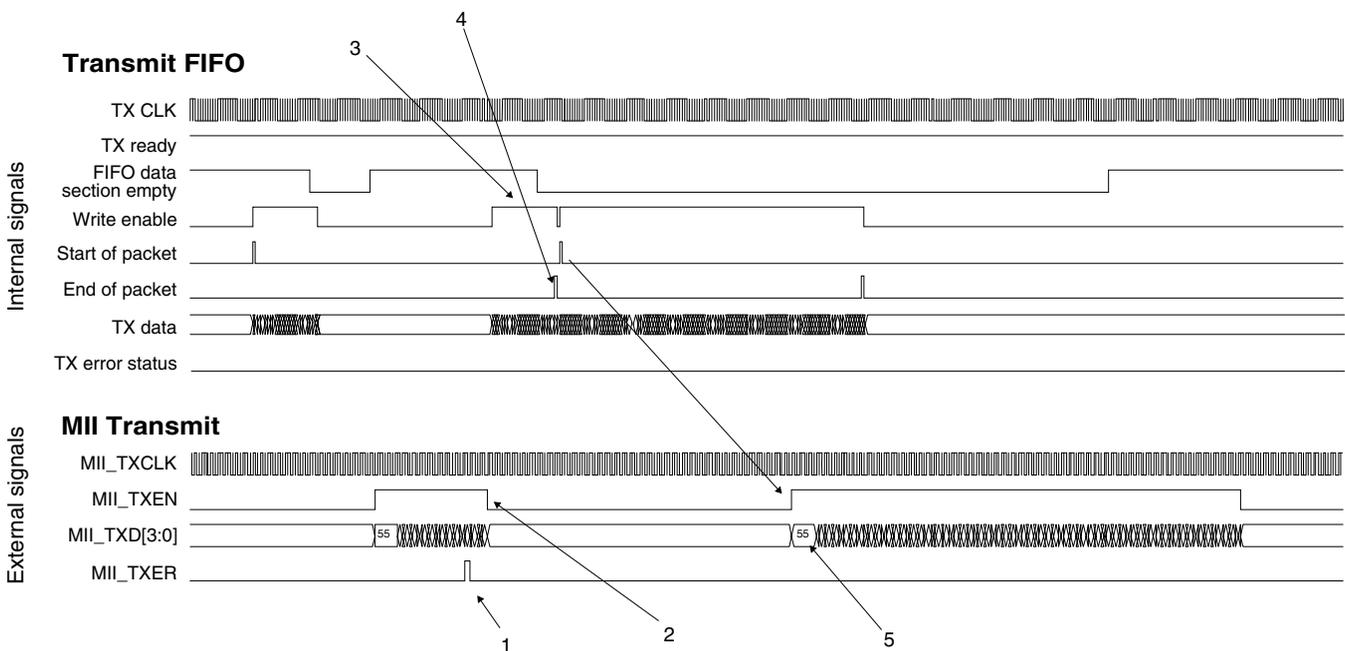

Figure 45-66. Transmit FIFO underflow protection
- Asserts the MII error signal (MII\_TXER) (1 in Figure 45-66) to indicate that the fragment already transferred is not valid
- Deasserts the MII transmit enable signal (MII\_TXEN) to terminate the frame transfer (2)